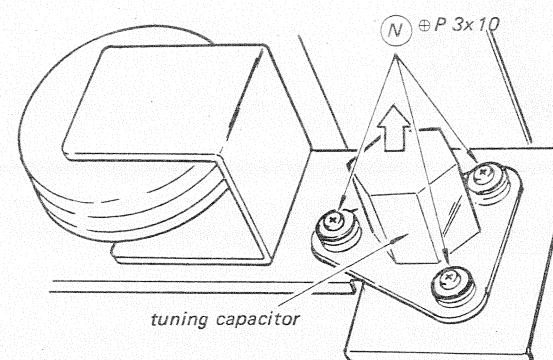

Fig. 2-19.
5. Remove the three screws marked ⑧ in Fig. 2-19 and pull off the a-m tuning capacitor in the direction shown by the arrow.